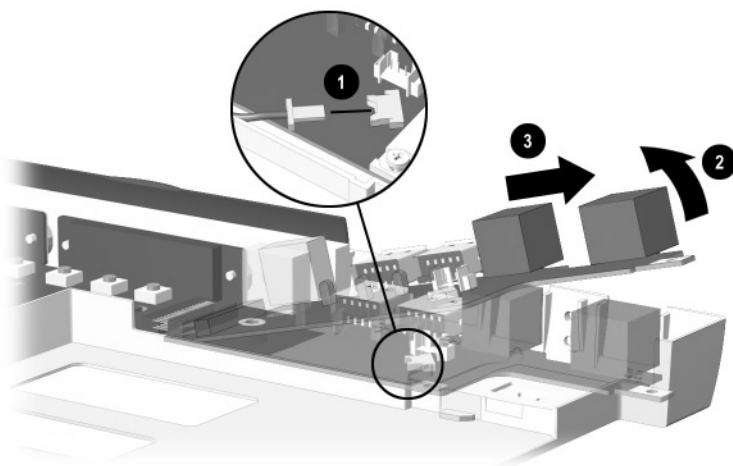

Figure 5-25. Removing the Sub I/O Board
4. Disconnect the modem/NIC cable ❶ from the sub I/O board (Figure 5-25).
5. Lift up the right side of the sub I/O board ❷ until it clears the base enclosure.
6. Slide the sub I/O board to the right ❸ to disconnect it from the system board.